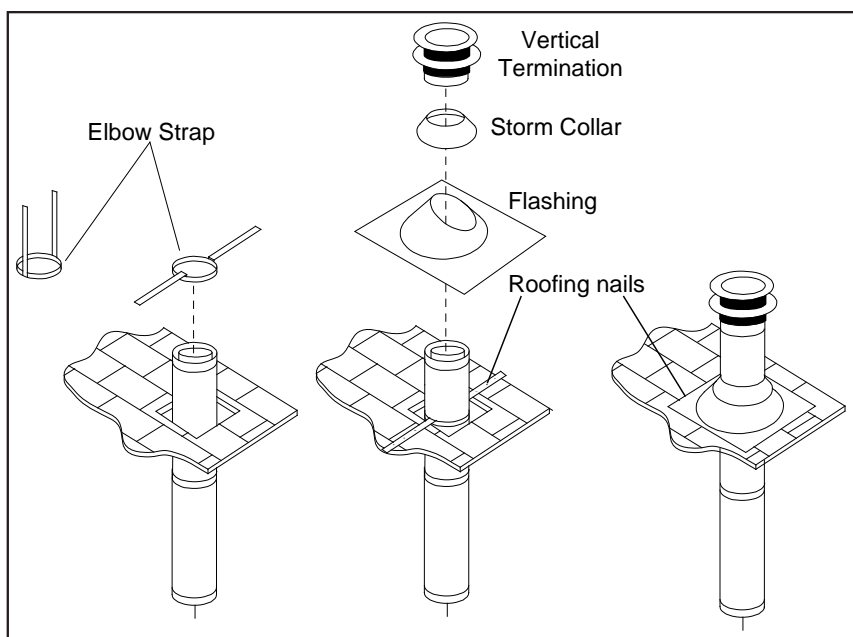

Figure 34: Vertical Vent Termination Installation.
7. Slip the flashing over the pipe section protruding through the roof. Secure the base of the flashing to the roof with roofing nails. Use a non-hardening sealant between the uphill edge of the flashing and the roof. Insure the roofing material overlaps the top edge of the flashing as shown in Figure 34. Verify that you have at least the minimum clearance to combustibles at the roof line.
9. Slip the storm collar over the pipe, and push it down to the top of the roof flashing as shown in Figure 34. Use the non-hardening sealant around the joint between the pipe and the storm collar.